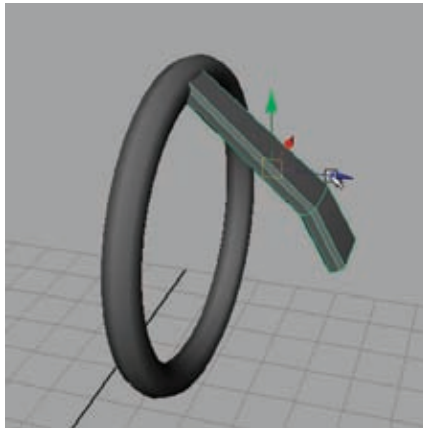

Figure 4.31
7. Position the shape on the steering wheel so that the tapered end meets the top of the wheel. You should get something like Figure 4.31.